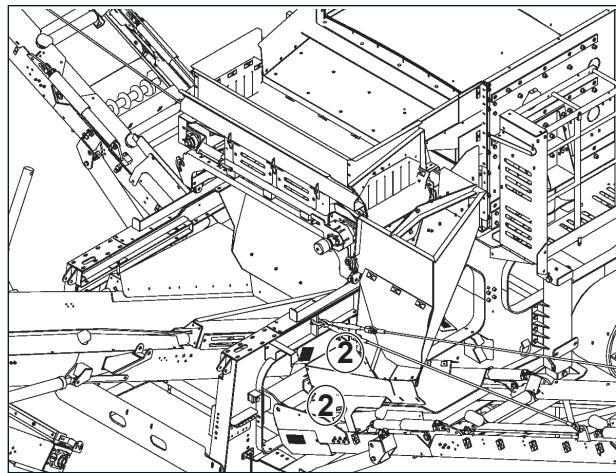

Figure 5.7 - Oversize Side Conveyor Chute
4. Remove oversize side conveyor chute (Items marked 2), Ref: Figure 5.7.